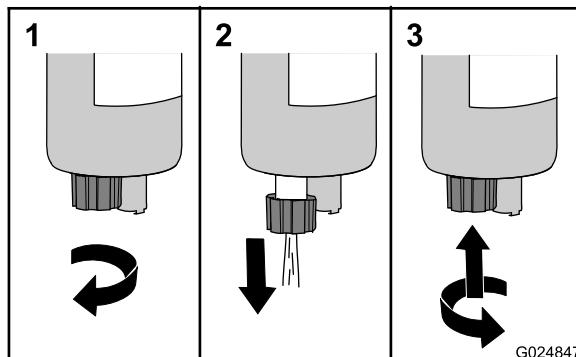

**Figure 20**
2. Place a drain container below the drain valve on the fuel-water separator (Figure 20).